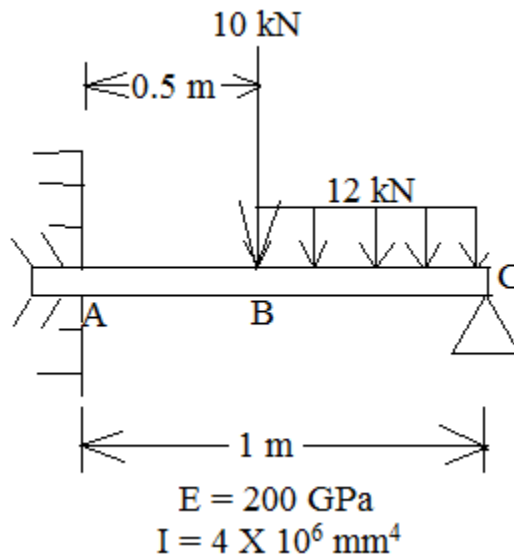

Fig.2: A loaded beam (Figure for Q. 6)
Q.6: For the beam loading shown in Fig. 2, determine the deflections and slopes at points A, B and C.